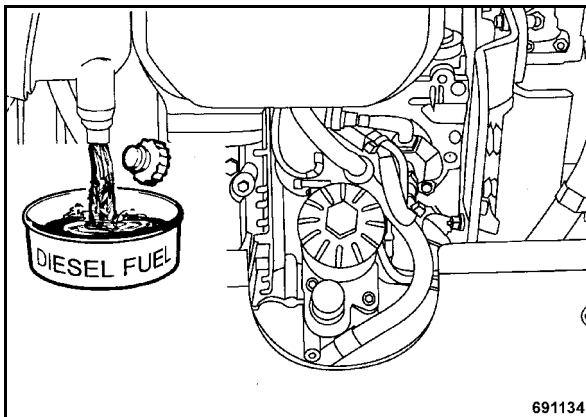

Fig. 53
- Unscrew the drain plug (Fig. 53) underneath the fuel tank, drain off fuel and catch it.